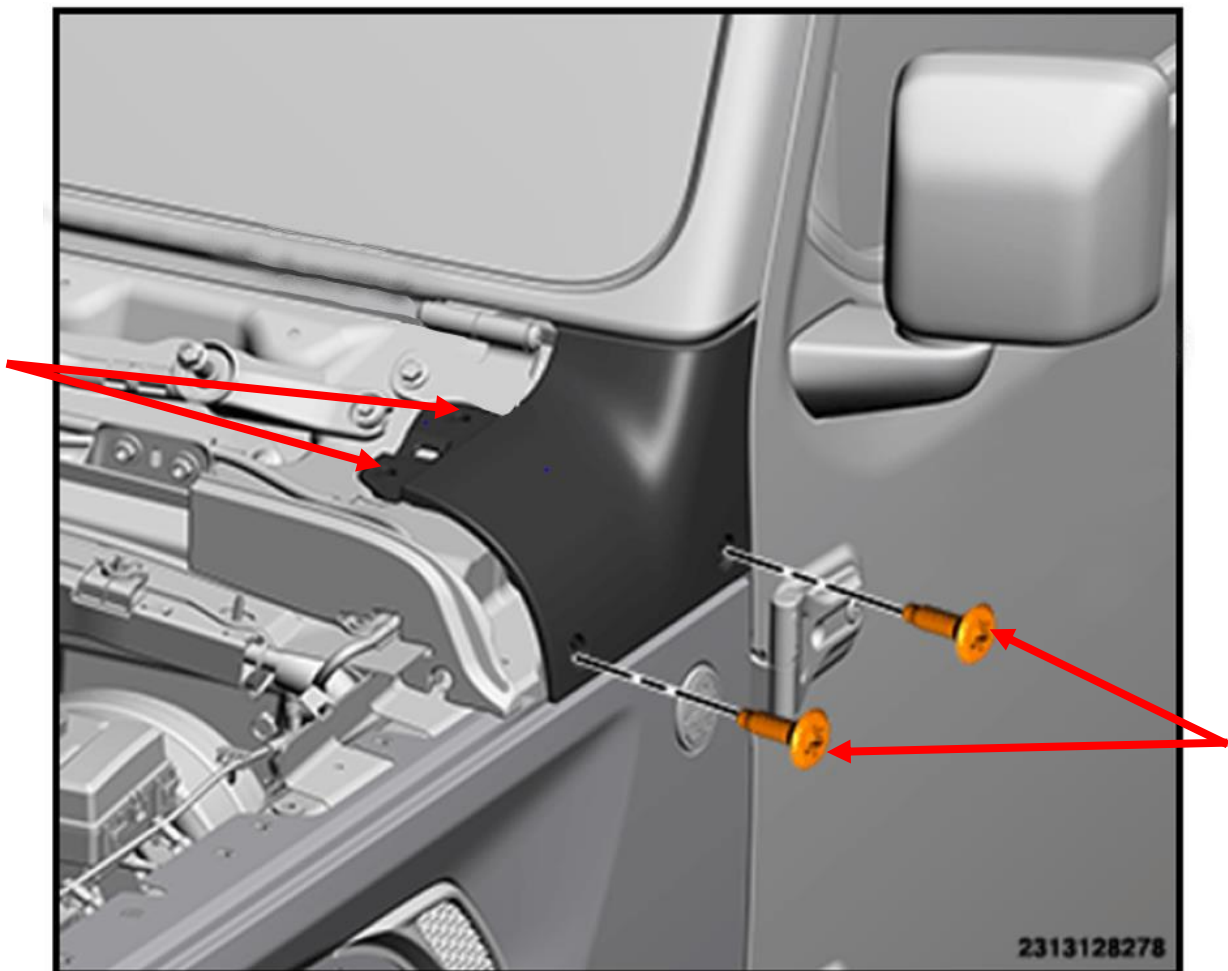
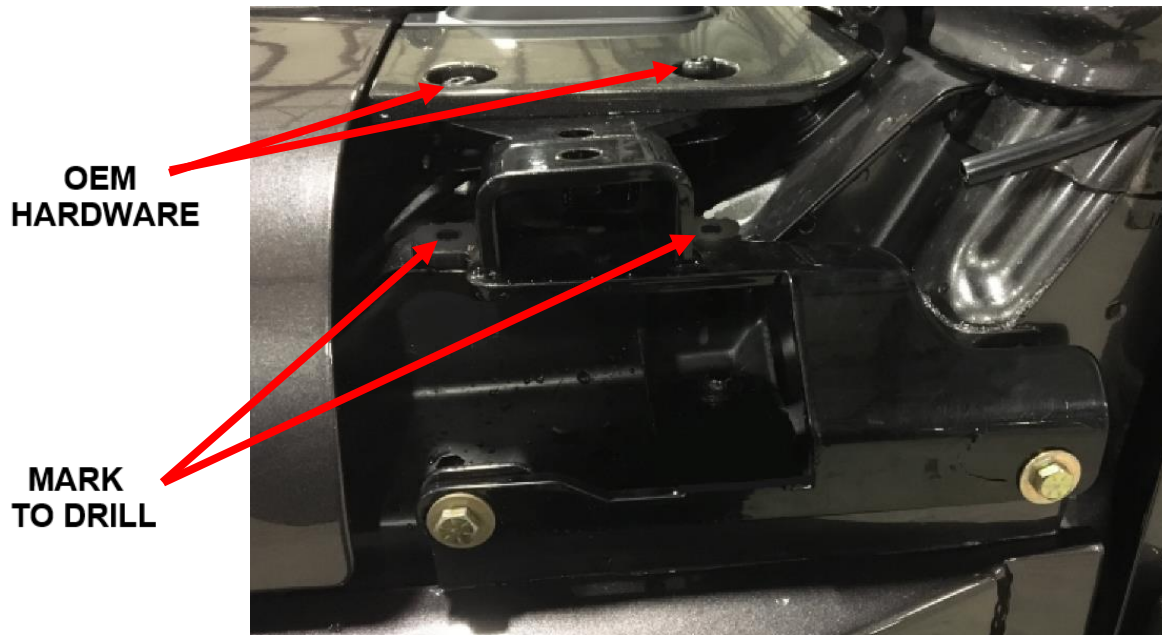

Figure 1
Figure 3
****NOTE: Do NOT remove the center cowl as pictured in Figure 1. The cowl side trim can be removed without removing the center cowl.****
- B. Take the vicowl brackets and place them on the vehicle as shown in Figure 3. Using the OEM hardware from Figure 1 attach the brackets to the Jeep and mark the drilling locations using a center punch.